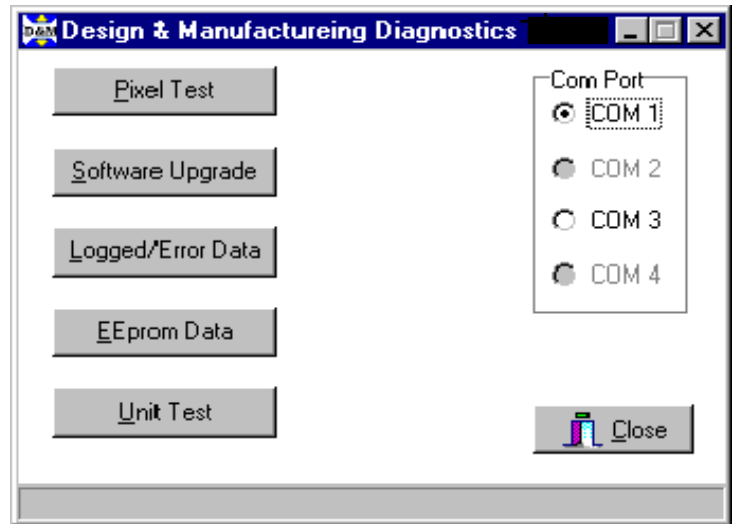
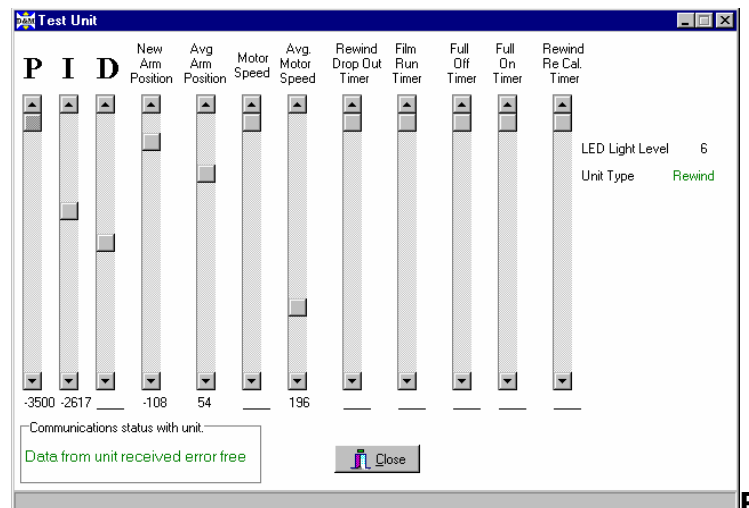

Figure 18
Figure 19
The LED Board used in SCDC Pay-Out and Rewind Cards can lose its light intensity over time. In order to maintain the proper light intensity the voltage to the card increases. The amount of voltage required to make the card perform properly is represented by the Light Level Code, as viewed in figure 18. Each time the unit is powered up, the card updates this number based on the current condition of the LED. Upon power up, if this number increases to 16, a pay-out control will cause the pay-out platter to run “full on”. Under the same conditions, a rewind control will power down. It is recommended that the LED board be replaced any time the Light Level Code exceeds 13. This reading can be verified using the Diagnostic Kit for SCDC Controls w/USB interface (Part #7265) and by following the procedure below.
You should get the screen shown in Figure 18.
2. Select “Unit Test” (shown in Figure 18). You will get the screen shown in Figure 19.